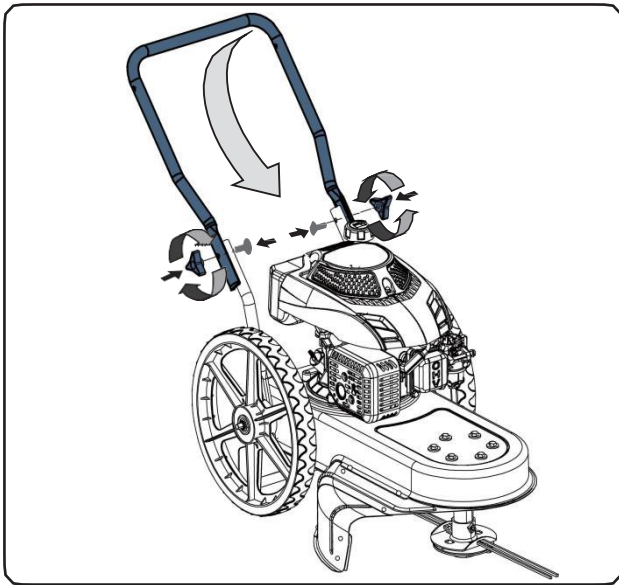

Figure 3-1
2. Pivot the middle handle into the operating position and fasten the middle handle. See Figure 3-1